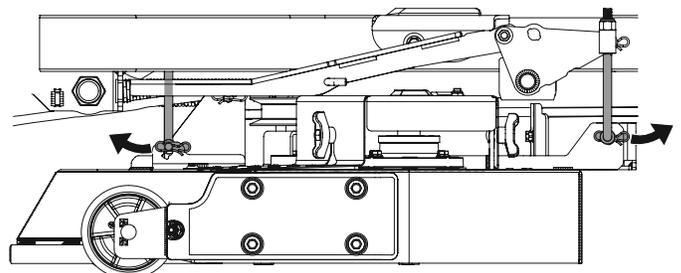

Figure 44
8. Remove the bow-tie pin from the bottom clevis end of each deck height adjust rod. There is one at the front and one at the rear on each side of the deck. See Figure 44. (Left side shown).